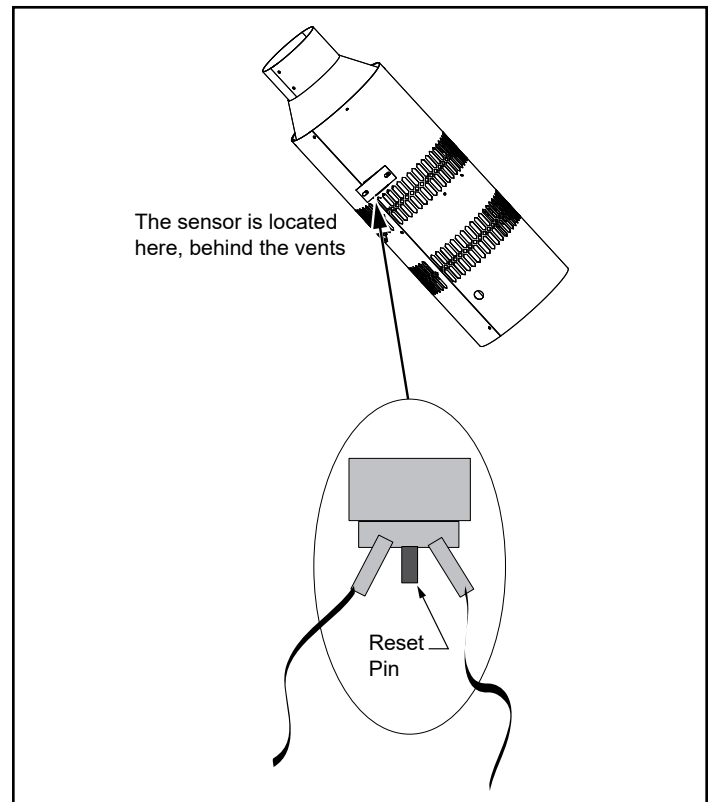

Figure 11 - Sensor and reset pin locations.
- Locate the reset pin between the wire connections on the sensor, Figure 11. Use a suitable probe to push the pin "IN" toward the sensor.